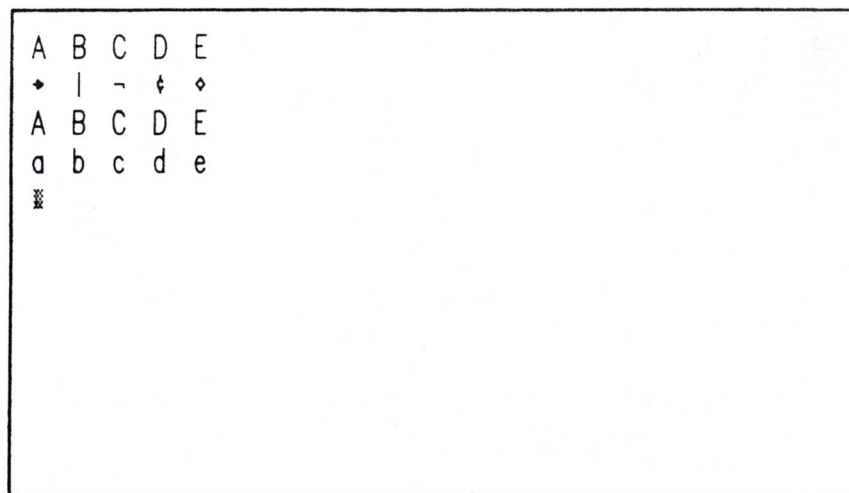

Figure 6-1
- 2) Now select the Alternate Set via ESC S C 1 and retype the same two lines. Your screen should look as shown in Figure 6-1. You can see the differences between the two sets in the lower case characters.